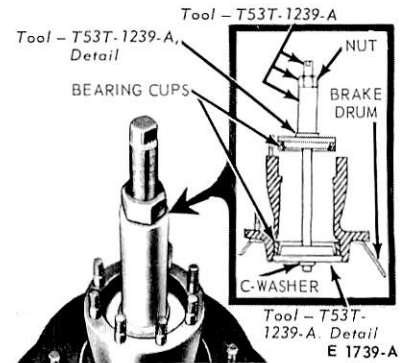

FIG. 8 Installing Bearing Cup
11. If the bearing cups are to be replaced, drive them out with a drift. Install the new cups with the tool shown in Fig. 8 or press them in.